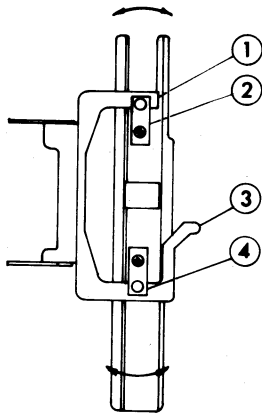

Fig. 29
8. Fig.30-2 and 3 should be at same position vertically, Fig.29 and the clearance between them and the film should be at 1-2mm.